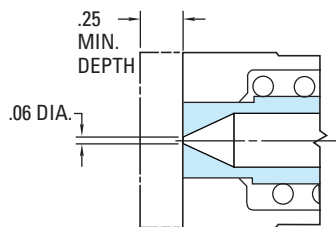

FIG. 1
Must always be altered as shown in Figures 1 thru 6 (see p. 166).
**NOTE:** Must always be altered as shown in Figures 1 thru 6.
**Always** remove the .25 extra stock allowance and alter the A dimension to suit whenever gating into a flat part surface. Minimum stock removal of .25 provides an approximate .06 gate diameter (Figure 1).